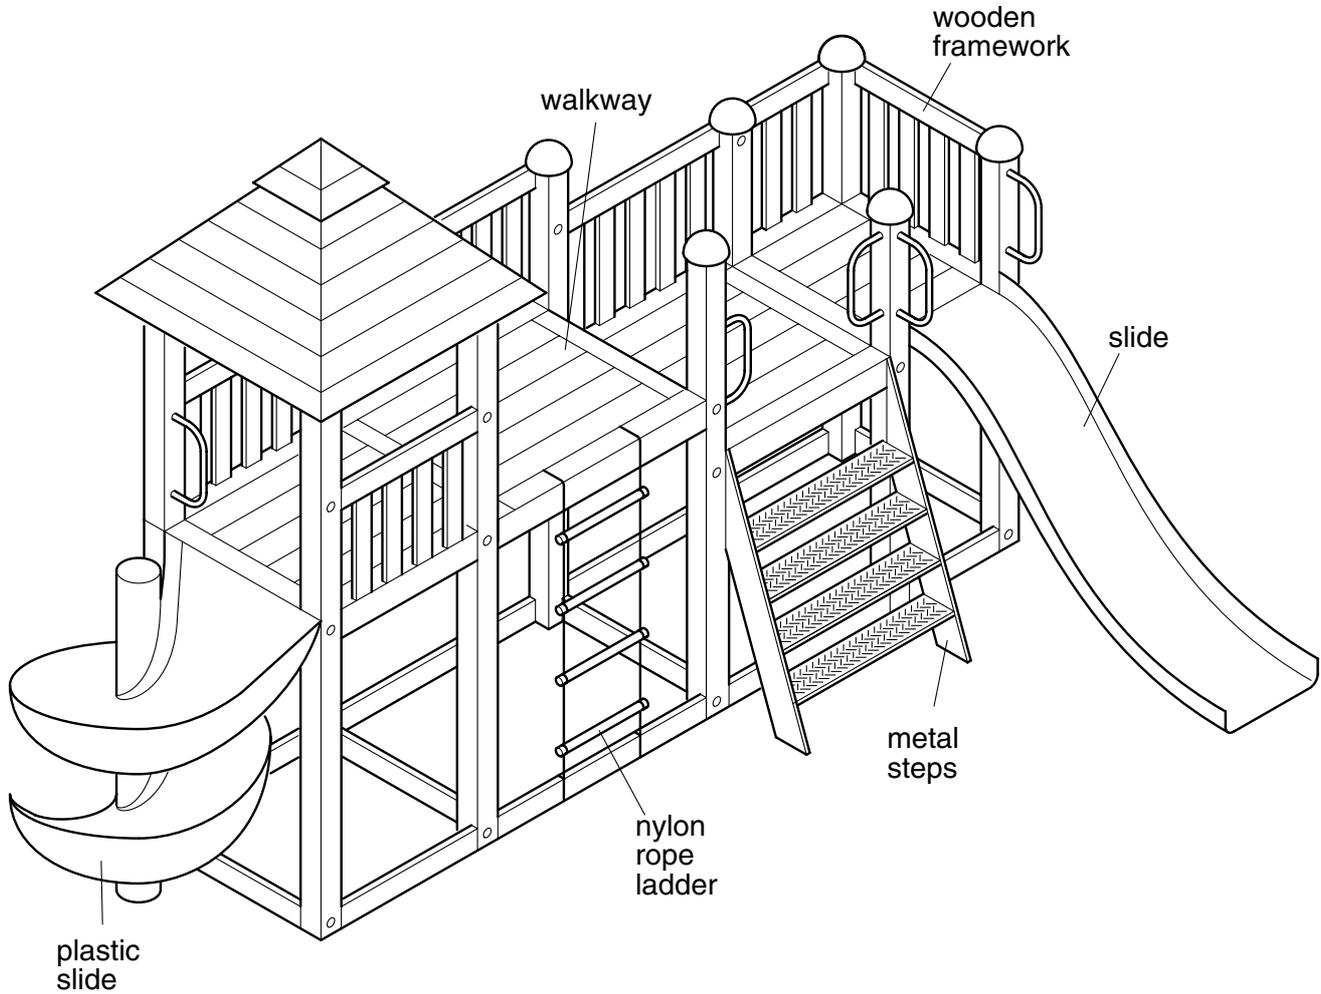

Fig. 3
- 10 Fig. 3 shows an example of outdoor play equipment for young children.